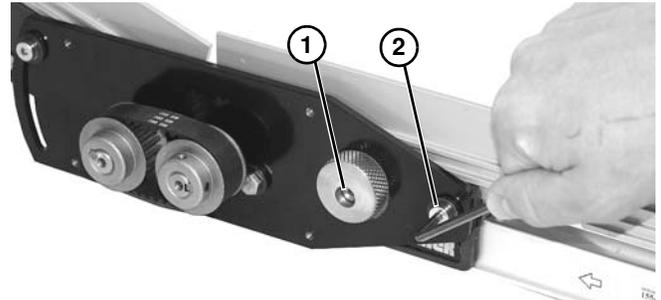

Figure 82
- Tighten screw (**Figure 82, item 1**) in cam to lock belt tension.
- Tighten screw (**Figure 82, item 2**) to 60 in-lb (7 Nm) to secure position.